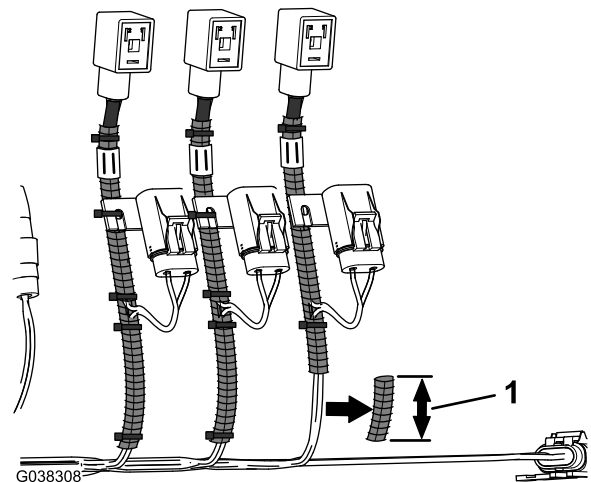

Figure 30
2. Remove 76 mm (3 inches) section of convoluted tubing as shown in Figure 30.